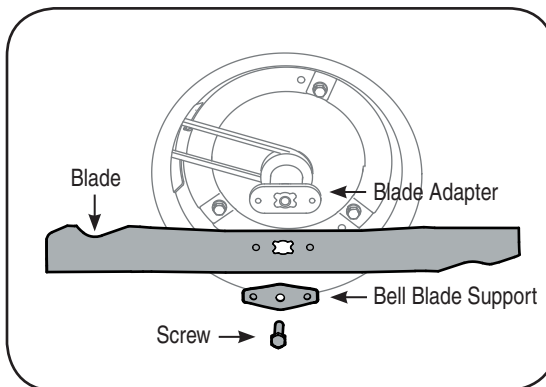

Figure 5-2: Remove bolt, bell blade support, and blade.
2. Remove bolt, bell blade support, and blade from the engine crankshaft, Figure 5-2.